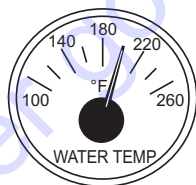

Figure 52. Coolant Temperature Gauge
10. The **coolant temperature gauge** (Figure 52) will indicate the coolant temperature. Under normal operating conditions the coolant temperature should be approximately 180°F (82°C).